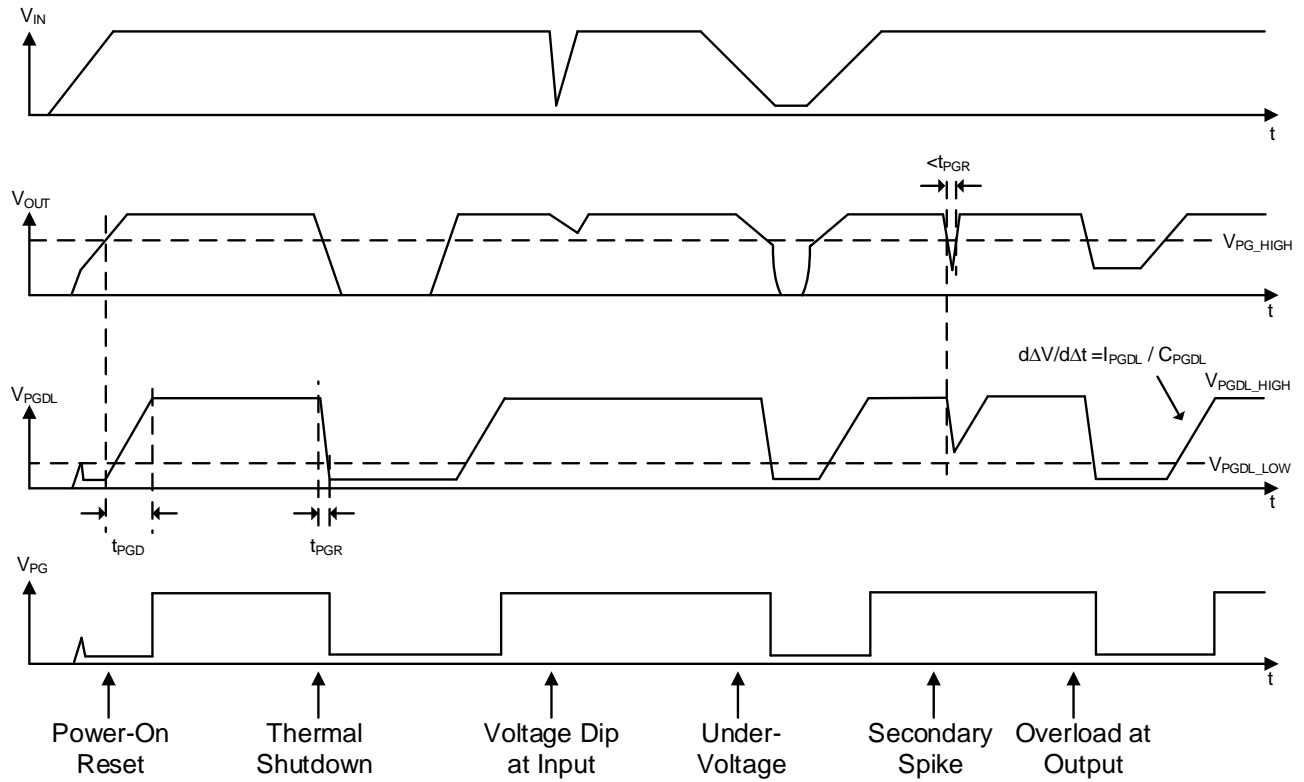

Figure 2: Power Good Timing
The output current (I_{OUT}) is limited internally, and the device is protected against short-circuit, overload, and over-temperature (OT) conditions (see Figure 2 on page 11).
Figure 2 on page 11 shows the PG timing.